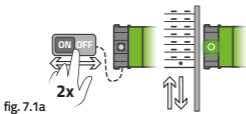

fig. 7.1a
- a) Switch on and off the **mob.iq [M35 EZRS]** motor's power supply twice - fig. 7.1a - the motor will make two short UP and DOWN moves.